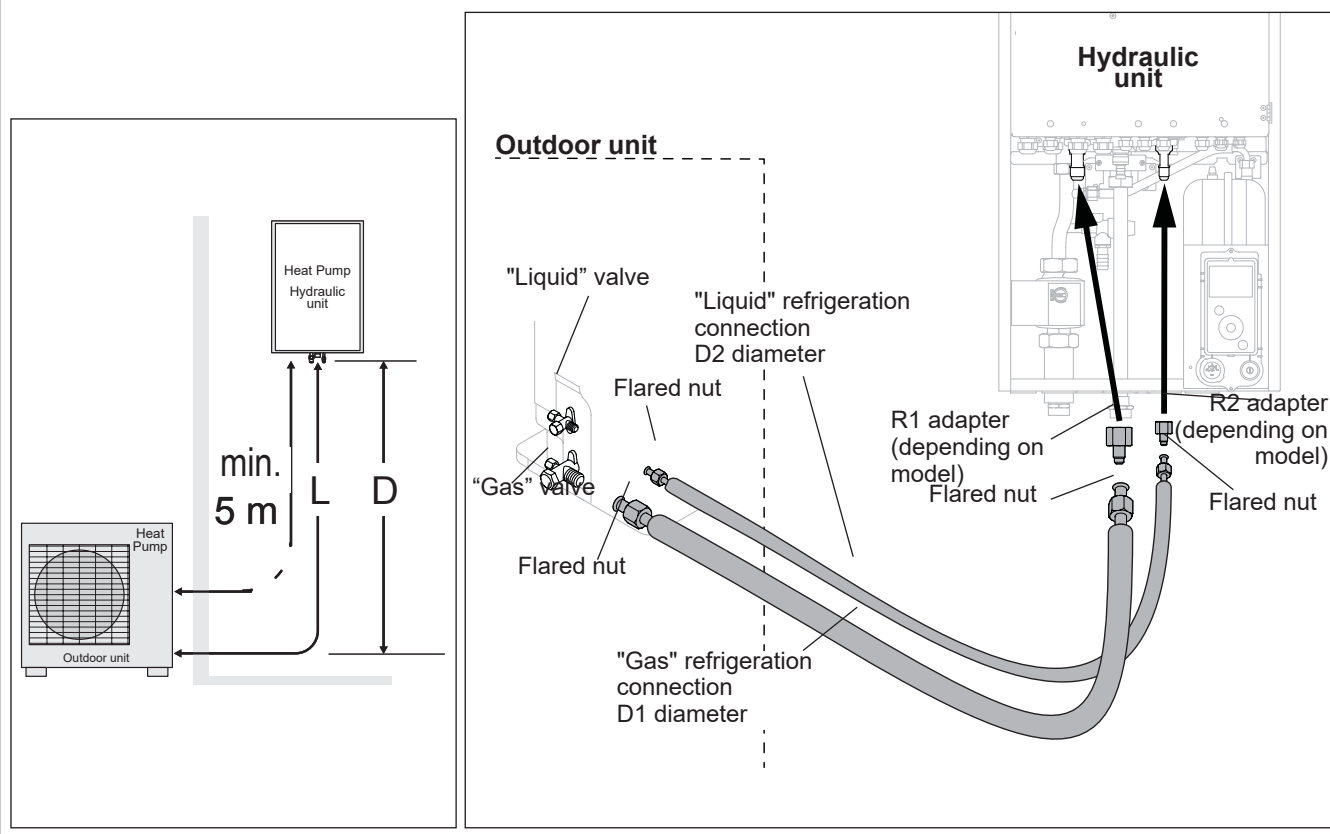

figure 21 - Refrigeration connections (authorised diameters and lengths)
- Where necessary, connect an adapter (reducer) 1/4"- 3/8" or 1/2"- 5/8" (see figure 21).